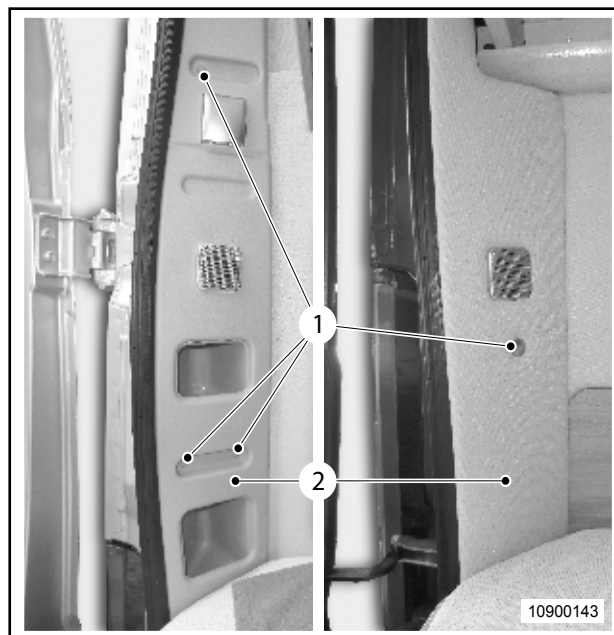

Fig. 89 Rear cover
3. Remove the caps (Fig. 89, item 1) on the screws of the plastic or cloth cover (Fig. 89, item 2) (right or left) in the rear of the vehicle.
4. Using a socket wrench (Torx T20) loosen the screws on the covers (Fig. 89, item 2) and carefully remove the covers. Pay attention to the cable lengths of the speakers and sockets.